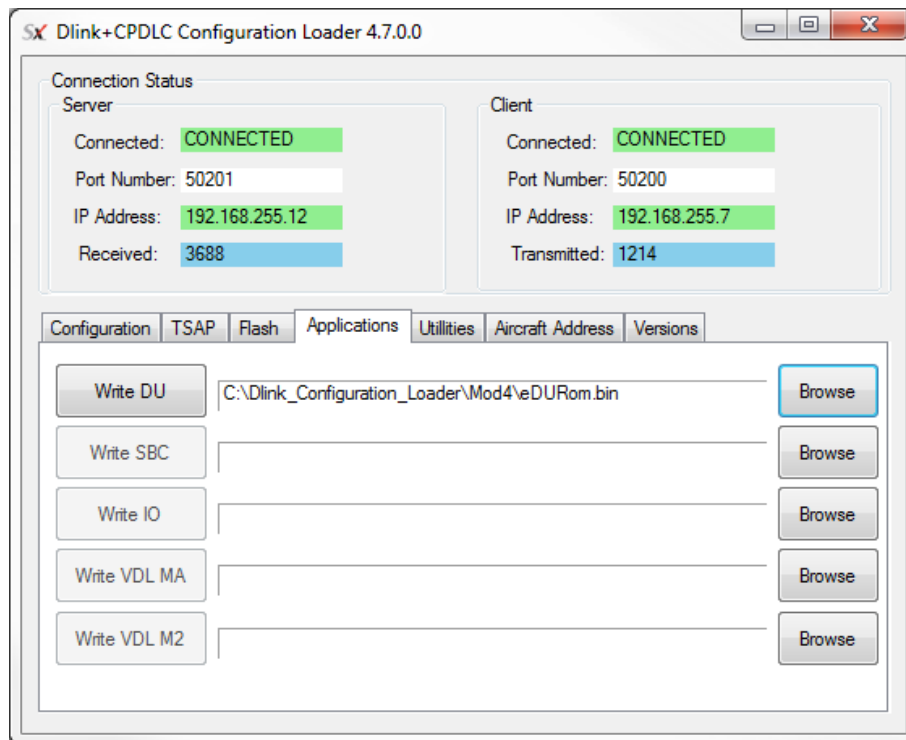

Figure 1 – Applications Tab
- (1) Attach Ethernet cable between PC and aircraft maintenance port of Dlink+.
- (2) Double click the application “Dlink_Configuration_Loader.exe”.
- (3) Enable power to Dlink+. Wait until the status reported by the Dlink_Configuration_Loader.exe changes from NOT CONNECTED to CONNECTED in both the server and client areas.
- (4) Go to the Applications tab of the Dlink_Configuration_Loader.exe. (see Figure 1)
- (1) Disable power to the Dlink+.
- (2) Remove Ethernet cable connecting PC to unit being programmed.
- (3) Enable power to the Dlink+ and wait until bootup is complete.
- (4) Press USER key, then MAINT LSK (line select key), then CONFIG LSK, then VERSIONS LSK.
- (5) Confirm that the display shows HW: 14494-1-XX BOM REV B and that CRC and FPGA values agree with Figure 1.
VDL MA in Figure 1 is equivalent to M0 on the unit.